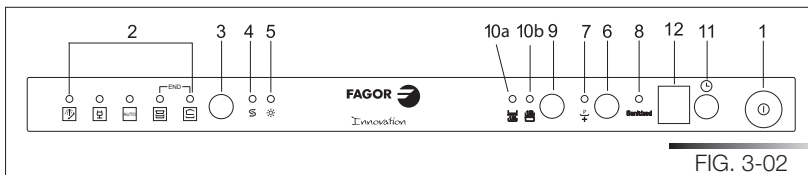
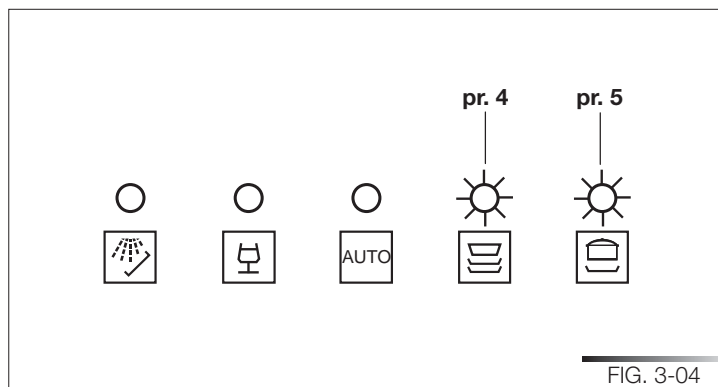

FIG. 3-02
FIG. 3-04
The dishwasher is equipped with a control panel (see fig. 3-02) which is used to program the appliance and switch it on and off.
(2) The cycle times listed in the use and care manual are based on normal soil loads and 49°C (120°F) incoming water and will vary based on your actual conditions.
To run programs **6, 7, 8, 9, 10** (see table 3-02b), select the required standard program (see programs **1, 2, 3, 4, 5** in table 3-02a) and then press the **supplementary program button** (ref. 6 fig. 3-02).
Press the on/off button (ref. 1 fig. 3-02) to start the dishwasher. Then wait for one of the **program indicator lights** to turn on (ref. 2 fig. 3-02).
- Press the **program selection button** (ref. 3 fig. 3-02) several times until the indicator light corresponding to the required program turns on (ref. 2 fig. 3-02);
The supplementary program button (ref. 6 fig. 3-02) adds **five extra programs** to the ones that can be directly selected with the program selection button.
- To cancel the current program, open the door and press and hold down the **program selection** button (ref. 3 fig. 3-02) for a few seconds until the indicator lights of the fourth and fifth programs turn on (ref. pr. 4, pr. 5 fig. 3-03).
The half-load wash cycle can be selected in two different ways using the **half-load wash** button (ref. 9 fig. 3-02):
- press the button **once** to select washing in the **upper rack**. This is confirmed by the appropriate indicator light (ref. 10a fig. 3-02);
- press the button **twice** to select washing in the **lower rack**. This is confirmed by the appropriate indicator light (ref. 10b fig. 3-02);
Before programming a delay, open the door of the dishwasher, select the required washing program (see para 3.2 “Setting the washing program and switching it on and off”). Select the day by pressing the **Program delay** button (ref. 11 fig. 3-02); each time you press the button, the display increases the delay by **1 hour** before the appliances starts.
At the end of the program, the dishwasher sounds a short beep and the **indicator lights of the fourth and fifth program** (ref. pr. 4, pr. 5 fig. 3-04) flash. Turn off the appliance by opening the door and pressing the **on/off button** (ref. 1 fig. 3-02).